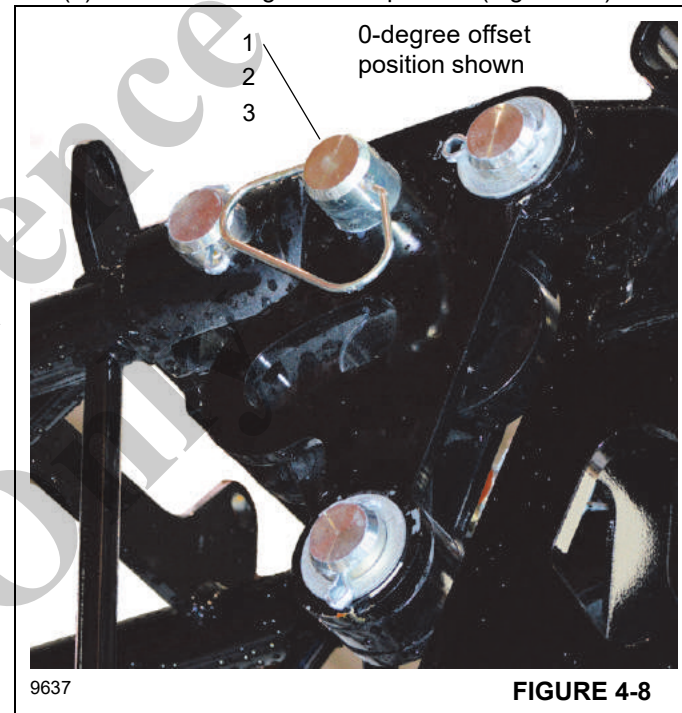

FIGURE 4-8
- 0-degree offset—The offset pins are installed in the uppermost offset positions (Figure 4-8).
4. Install the offset pins (1, Figure 4-8), washers (2), and lock pins (3) in the 0° offset position. Secure with lock pin spring clips.